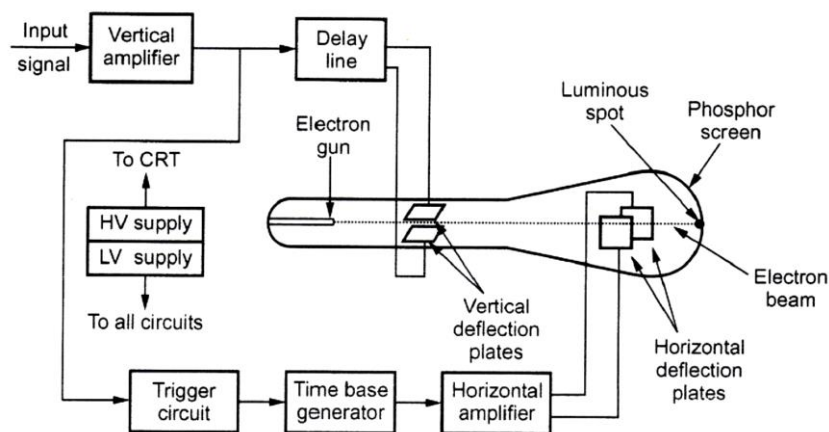

Fig.4.9 – Block diagram of CRO
- ▶ The Fig.4.9. shows the general-purpose CRO contraction.